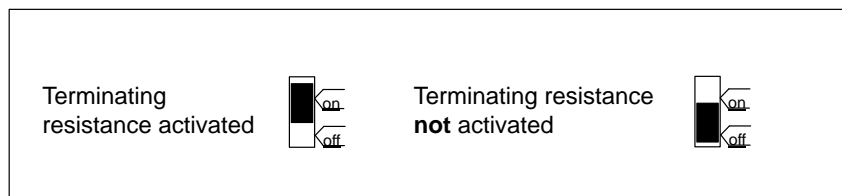

Figure 7-15 Bus Connector: Terminating Resistance Activated and Deactivated
3. If the bus connector 6ES7 972-0B.20-0XA0 is installed at the start or end of a segment, you must activate the terminating resistance (switch setting "ON") (see Figure 7-15).